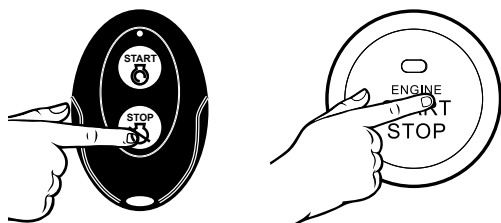

Figure 9: Stopping generator
3. Press and hold the Push Start/Stop Button for 1 second, or press “Stop” on remote start key fob, (see Figure 9).